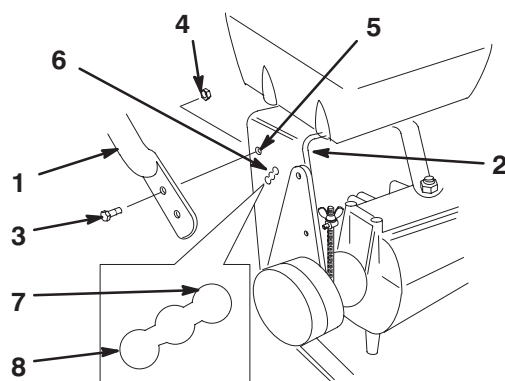

Figure 6
1. Align upper handle with upper mounting holes in rear frame (Fig. 6).
2. Secure each upper mounting hole with a flange bolt (3/8 x 1 in.) and flange nut (Fig. 6). Torque bolts to 25 ft. lbs. (34 N.m).
3. Select high, medium or low position for the lower mounting hole (Fig. 6). This allows the upper handle to be adjusted to the user's height preference.
4. Secure each lower mounting hole with a flange bolt (3/8 x 1 in.) and flange nut (Fig. 6). Torque bolts to 25 ft. lbs. (34 N.m).